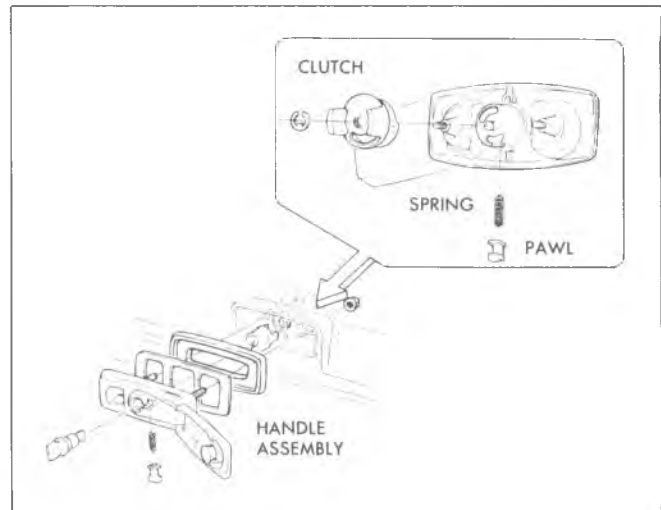

Fig. 54—Outside Handle (06 and 14)
11. From inside the endgate, remove the nuts fastening the outside handle to endgate and remove the outside handle. See figure 54.